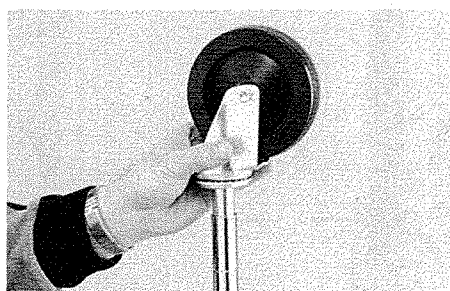

Fig. 1
2. Place caster in the post end opposite the cap (first groove 2 1/8" from end of post) until the stem ring contacts the post I.D. (Fig. 1).